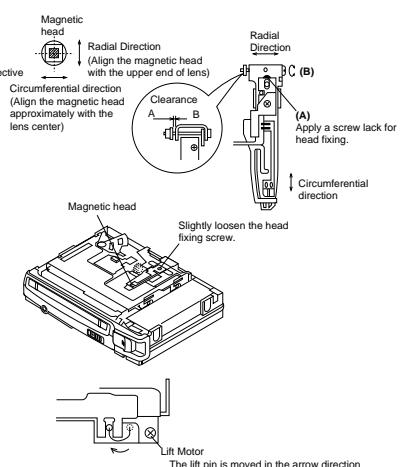

Figure 16-2
- * Circumferential direction: Slightly loosen the head fixing screw (A), and shift the magnetic head fitting to align the head with the pickup objective lens.
- * Radial direction: Turn the magnetic head circumferential adjustment nut (B), and adjust to align the head with the objective lens.
- *1: Before setting the disc remove the decoration plate from the disc lid, and fix it as shown in Figure 16-2.
- 4. Make sure that there is a clearance as shown in Figure 16-2 and that the magnetic head moves up and down smoothly.
- 5. After adjustment apply Screw Lock to the head fixing screw (A) and adjusted magnetic head radial adjusting screw (B).